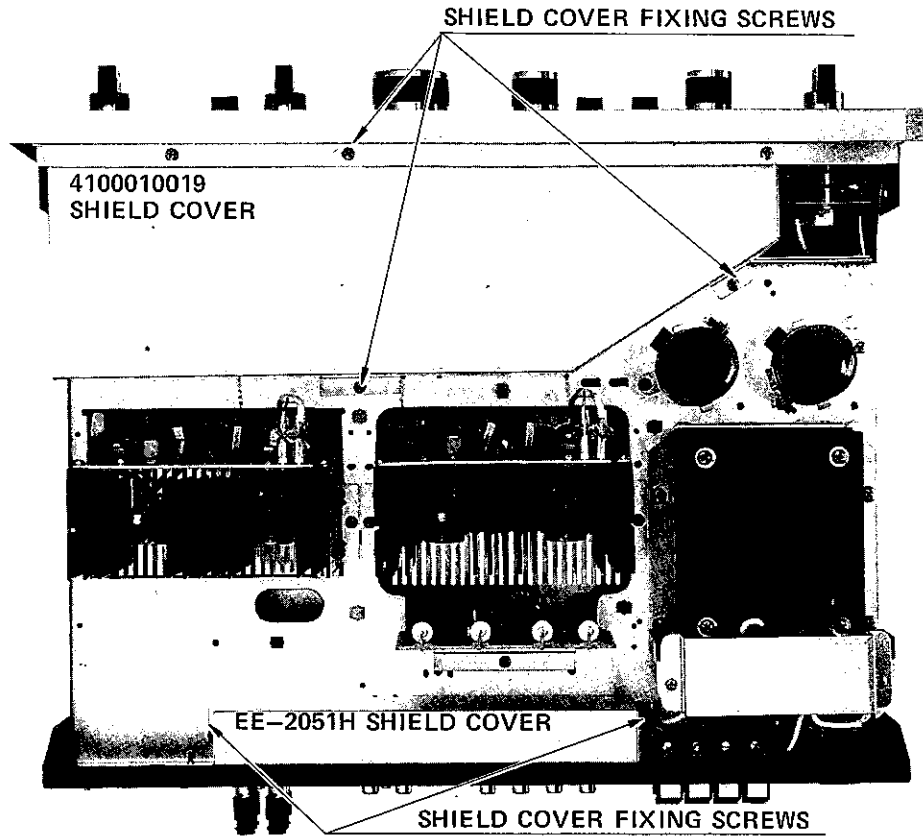

Fig. 4
3. For removal of the shield cover, take off three screws for front shield cover and two screws for back shield cover. (Fig. 4)